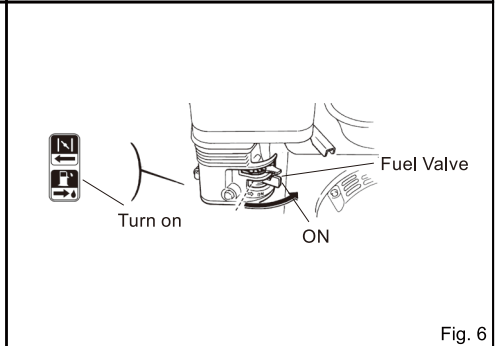

Fig. 6
1. Turn the fuel valve ON.(Fig. 6)